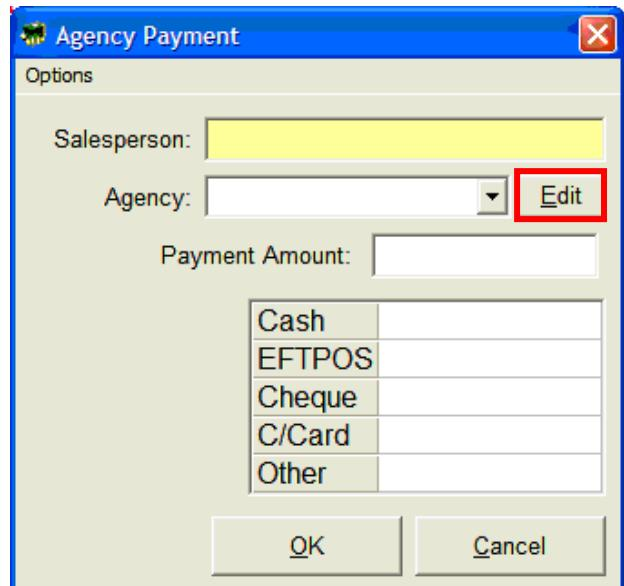

Figure 58
1. To delete an Agency, select the 'Edit' button (as shown in Figure 58).